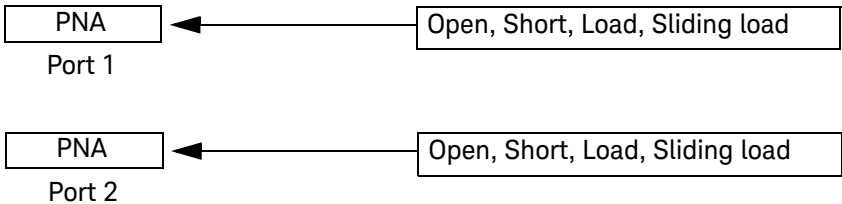

Figure 1-3 System calibration setup
- 1** Set up the equipment for system calibration according to Figure 1-3.